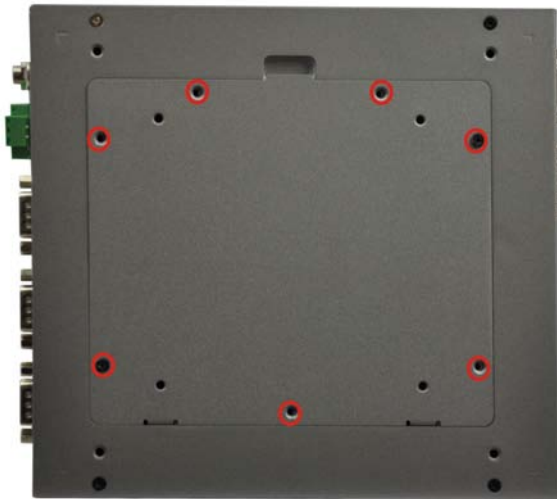

Figure 3-1: Remove Retention Screws (Bottom Panel)
Step 1: Remove seven retention screws from the bottom panel, as shown in **Figure 3-1**.